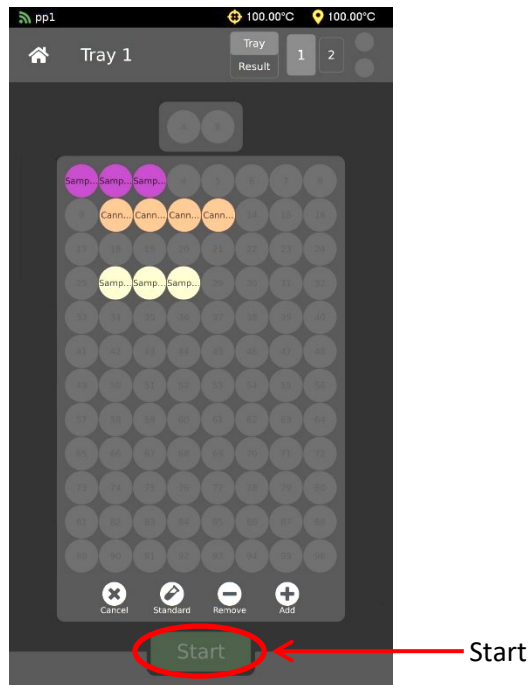

Figure 42: Start Sample Testing
1. Once all standards and samples for selected tray are entered, press **Start**. See Figure 42